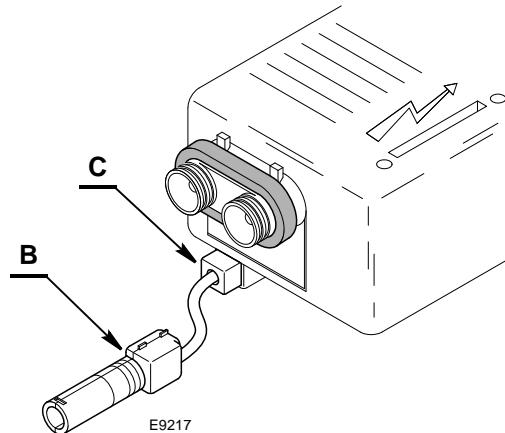

Fig. 15
- undo the connector C (Fig. 15) and remove the flame detector B from its seat.